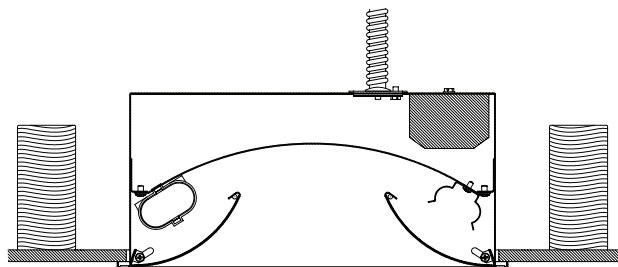

FIGURE 3
3. LIFT LUMINAIRE (LAMPS REMOVED) INTO OPENING UNTIL FLUSH WITH DRYWALL CEILING AS SHOWN. (FIGURE 3)